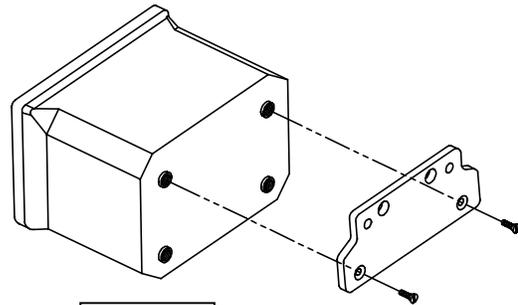

Figure 8
The 6504 Breakout Box is required when deploying more than one sonde from the 6500 Monitor (see Figures 8 & 9). The Breakout Box has two MS-8 connectors for connection to the sonde cables and one conduit fitting for connection with the YSI #6508 Junction Box. For direct connection to the 6500 Monitor, a #6507 Patch Cable and Gland Fitting (YSI 064007) are required.
1. Securely fasten both mounting brackets (included with the 6504) to the back of the 6504 Breakout Box as shown in Figure 8, with the mounting screws provided.